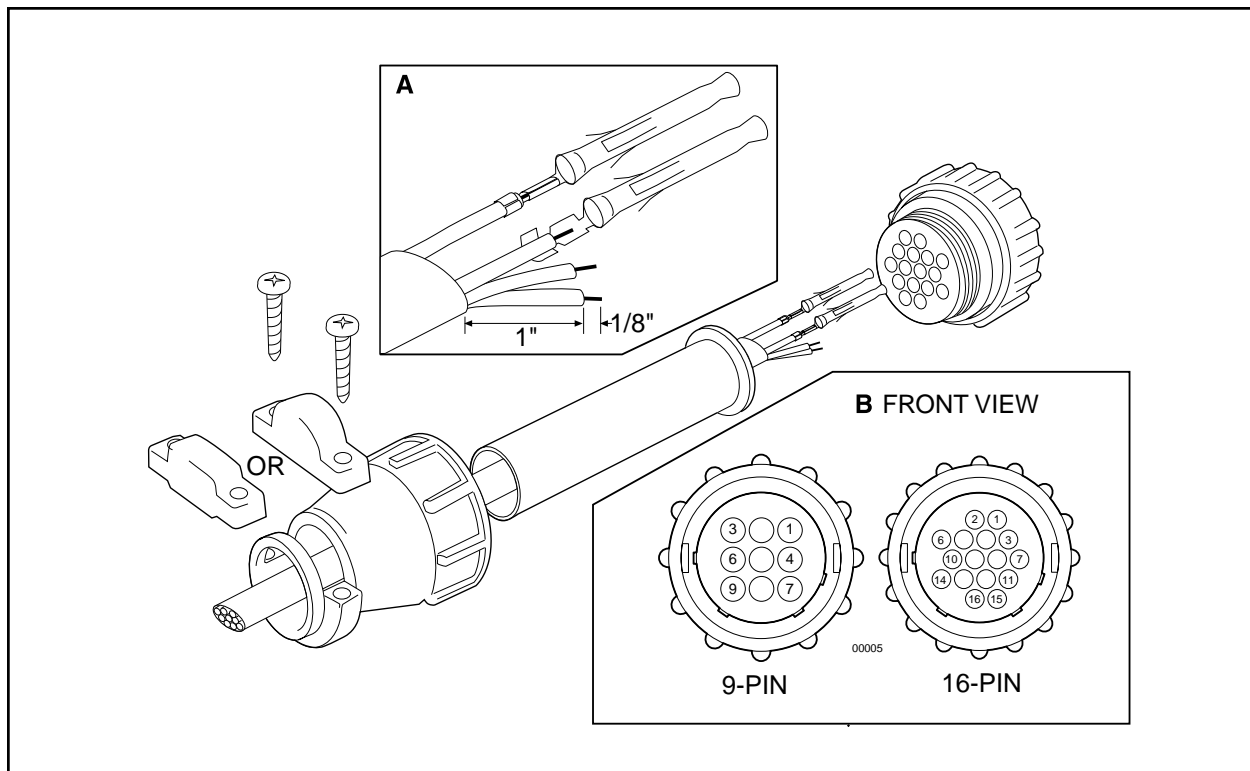
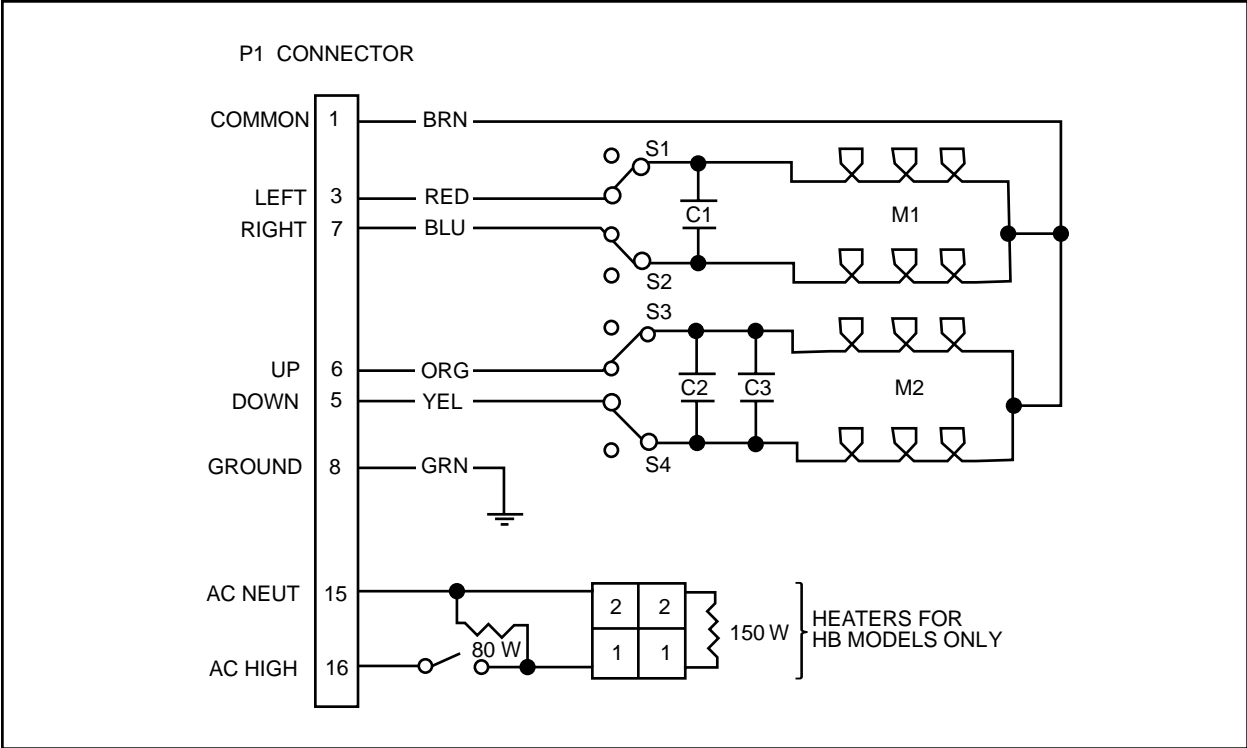
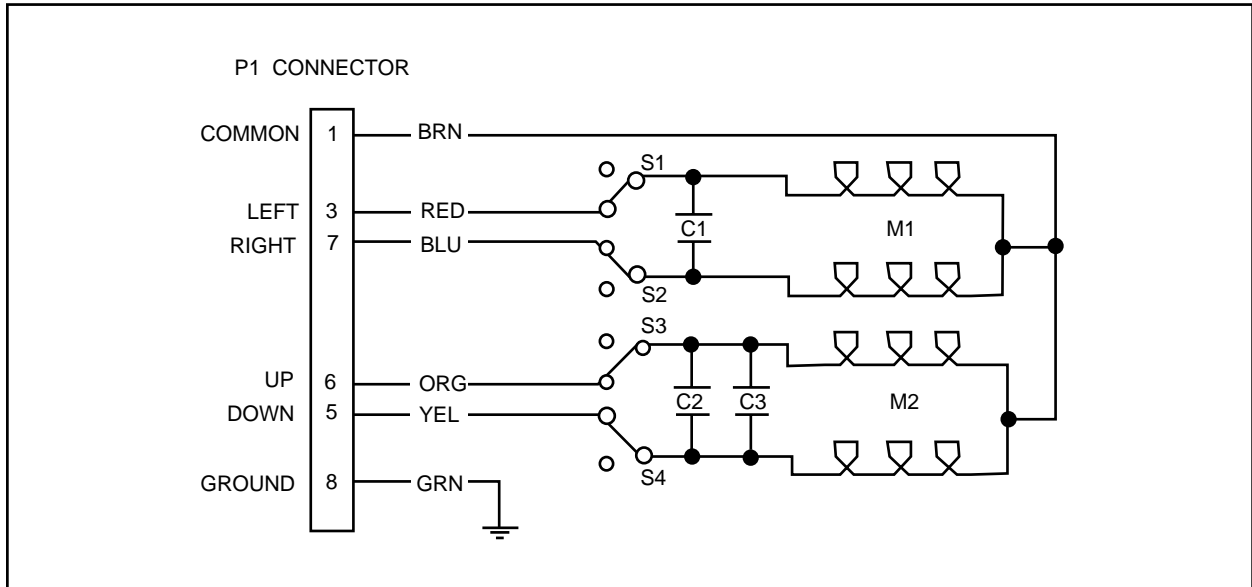

Figure 2. Connector Assembly
Figure 3. PT1250 Series Wiring for P, FG, FGP, HB and 220 Models
Figure 4. PT1250 Series Wiring for RAD Model
To assemble the mating connector for the RAD model, refer to Figure 4. To assemble the mating connector for all other models, refer to Figure 2 and perform the following steps.
2. Refer to Detail A in Figure 2. Prepare the wires from the conductor cable as follows:
3. Slide the connector pins into the appropriate holes in the connector body until they snap into place. Refer to detail B in Figure 2 and to Figure 3 or 5 for correct pin arrangement, depending on model and options.